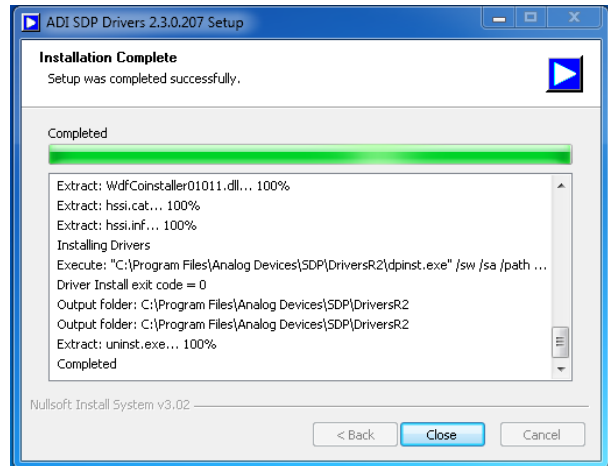

Figure 15. Installation Complete
5. Click the **Close** button shown in Figure 15 when the installation is complete.